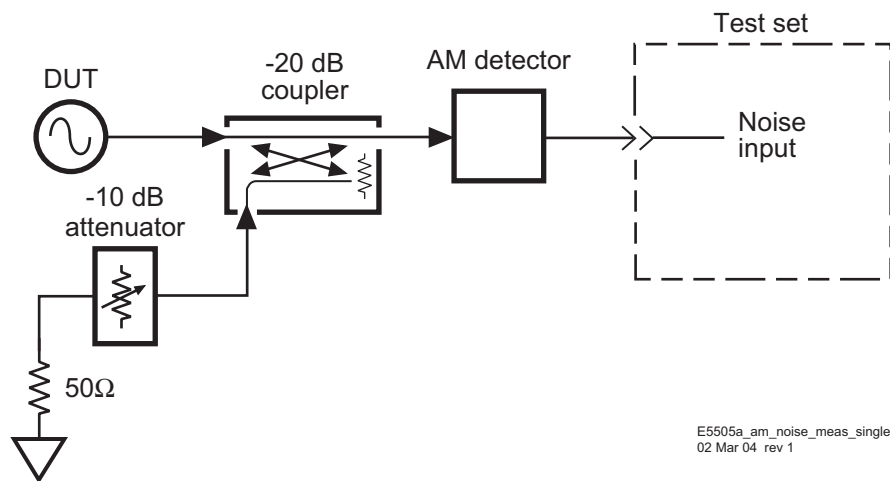

Figure 234 AM noise measurement setup using single-sided spur
- 1 Connect circuit as shown in Figure 234, and tighten all connections. If the N5500A Option 001 or N5507A is available, use one of the connection diagrams described in “AM noise measurement block diagrams” on page 285.